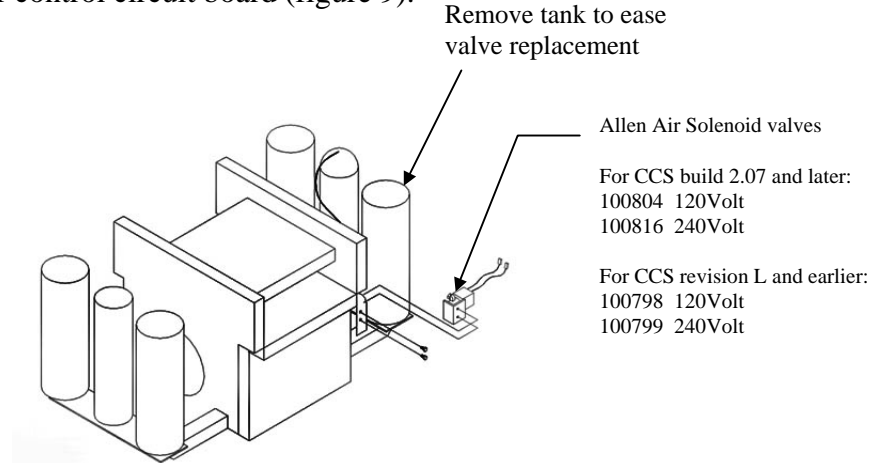

Figure 9
- The solenoid valve is located within the housing assembly. The valve aids in purging air through the air dryer canister. This valve is mounted to the side of the bracket that supports the computer control circuit board (figure 9).